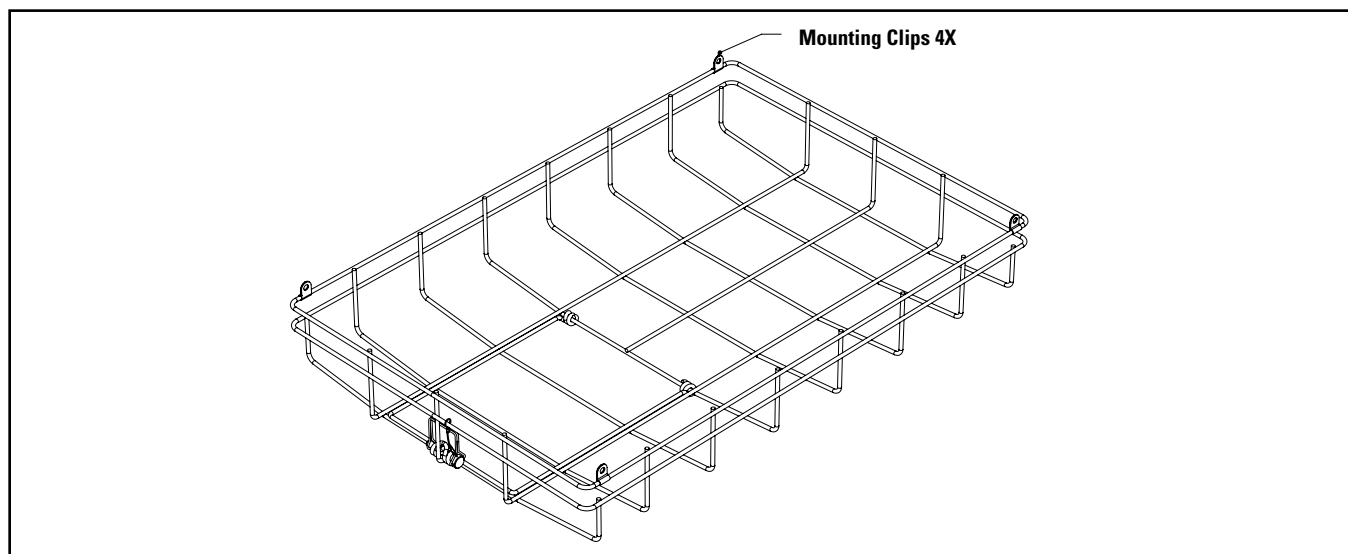

Figure 4.
4. Install the 4 wire guard mounting clips to each corner of the guard as shown in (Figure 4).